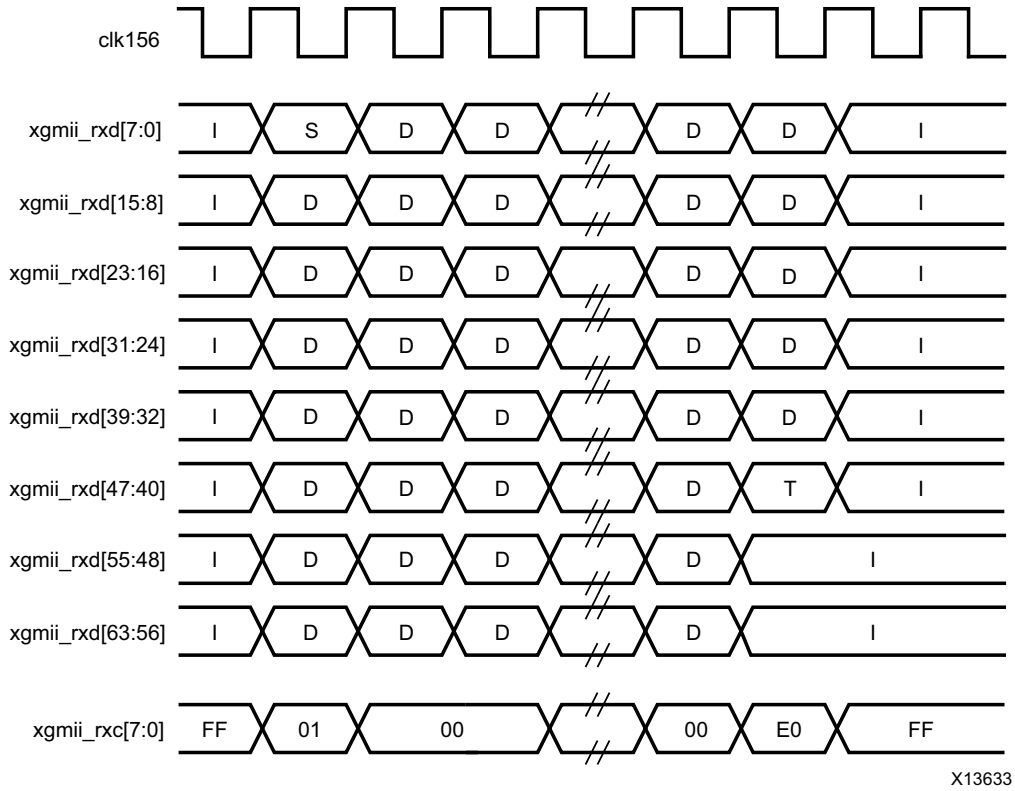

Figure 3-7: Frame Reception Across the Internal 64-bit Client Interface
The timing of a normal inbound frame transfer is shown in Figure 3-7. As in the transmit case, the frame is delimited by a Start character (S) and by a Terminate character (T). The Start character in this implementation can occur in either lane 0 or in lane 4. The Terminate character, T, can occur in any lane.